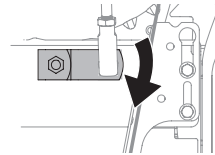

Figure 27
9. Make sure the shift lever on the back of the transmission is rotated downward to the full extent of its rotation (Figure 27).